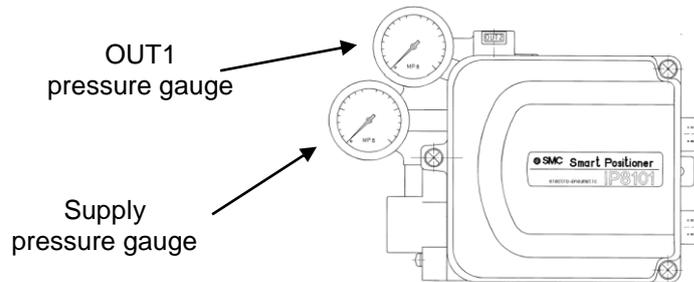

Fig. 17
- *5: A Description of pressure gauges mounted on the positioner are as shown in Fig. 17.